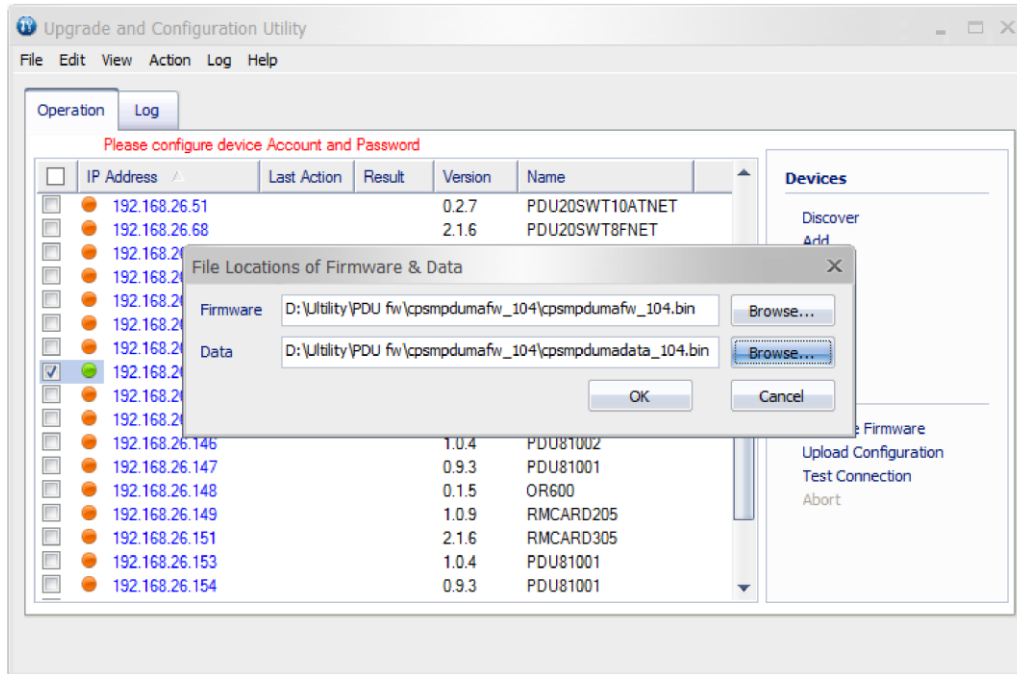

Figure 4.
7. Click Browse to locate and select the firmware and data file to be updated (Shown in Figure 4).